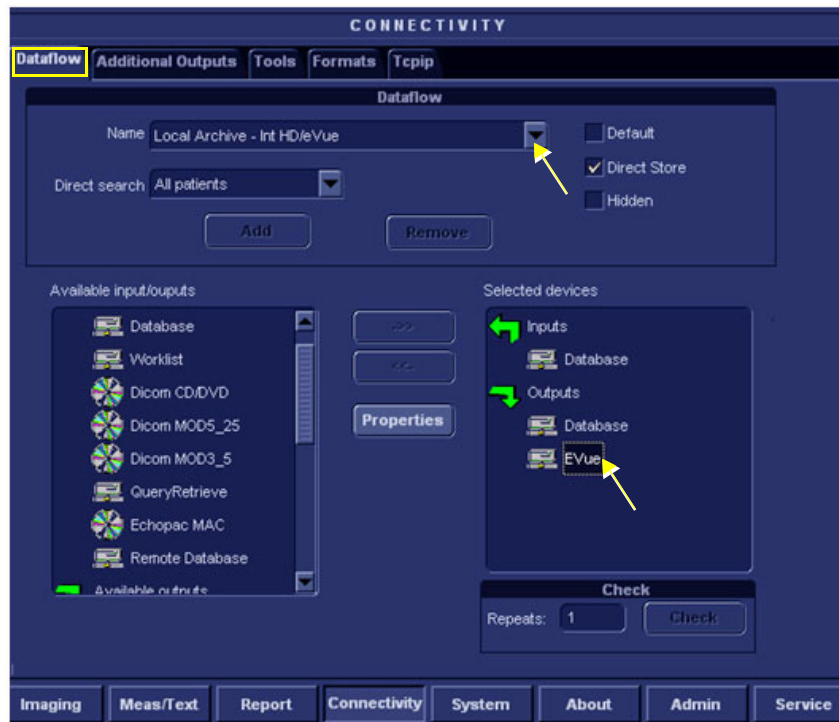

Figure 3-140 Connectivity - Dataflow Tab Selected
- 5.) Select the **Dataflow** Tab, as shown in Figure 3-140 on page 3-133.
- 8.) Trackball to the *Selected devices* window and select (highlight) **eVue** (see Figure 3-140).